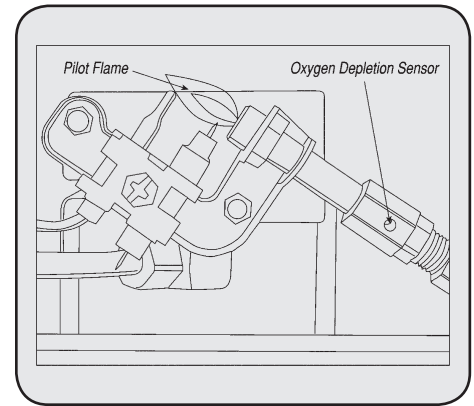

Figure 6
- Visually inspect the pilot flame and burner periodically during use. The pilot flame should be blue in color (not yellow) and will extend to the thermocouple. The flame will surround the thermocouple just below the tip. See Figure 6.
2. Remove (4) four screws that secure the rear cover (ref. # 3) to the heater.
4. Remove (4) four burner retaining screws and fuel line from burner assembly. Remove burner assembly (ref. # 25) from back of housing.
6. Inspect and clean main burner orifice (threaded into orifice holder). Orifice holder is attached to the burner assembly venturi with (2) two screws.
7. Inspect and clean pilot (mounted to bracket) by using a vacuum or apply air pressure through the holes in the pilot indicated by the arrows in Figure 6.